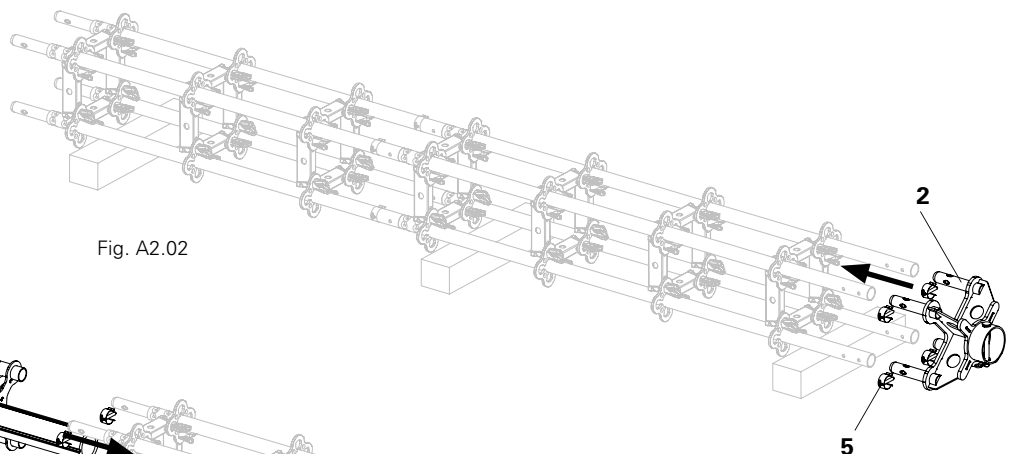

Fig. A2.02
3. Position Connector (2) on the Spigots of the Standards and tightly connect by means of Locking Pins (5). (Fig. A2.02)